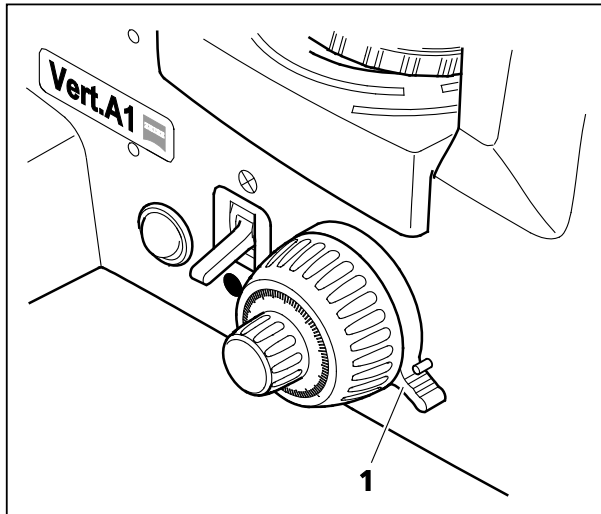

Fig. 4-1 Height Stop of the Focusing Drive
- Turn the clamping lever of the stop (Fig. 4-1/1) upward against the pin.